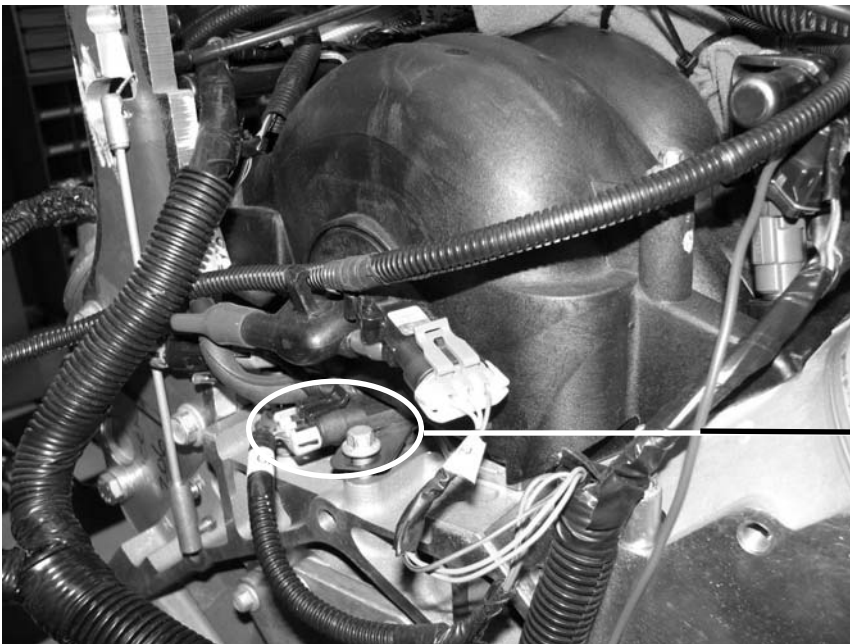

FIGURE 2
6. All rocker arms must be loosened or removed prior to removing the camshaft. On Gen III engines the bolt securing the cam sensor in the rear of the block must also be loosened and the sensor lifted. Failure to do so may result in damage to the sensor. (See Figure 2). Gen IV engines will need to have the cam position sensor removed from the access plate or unclipped from the wiring harness.